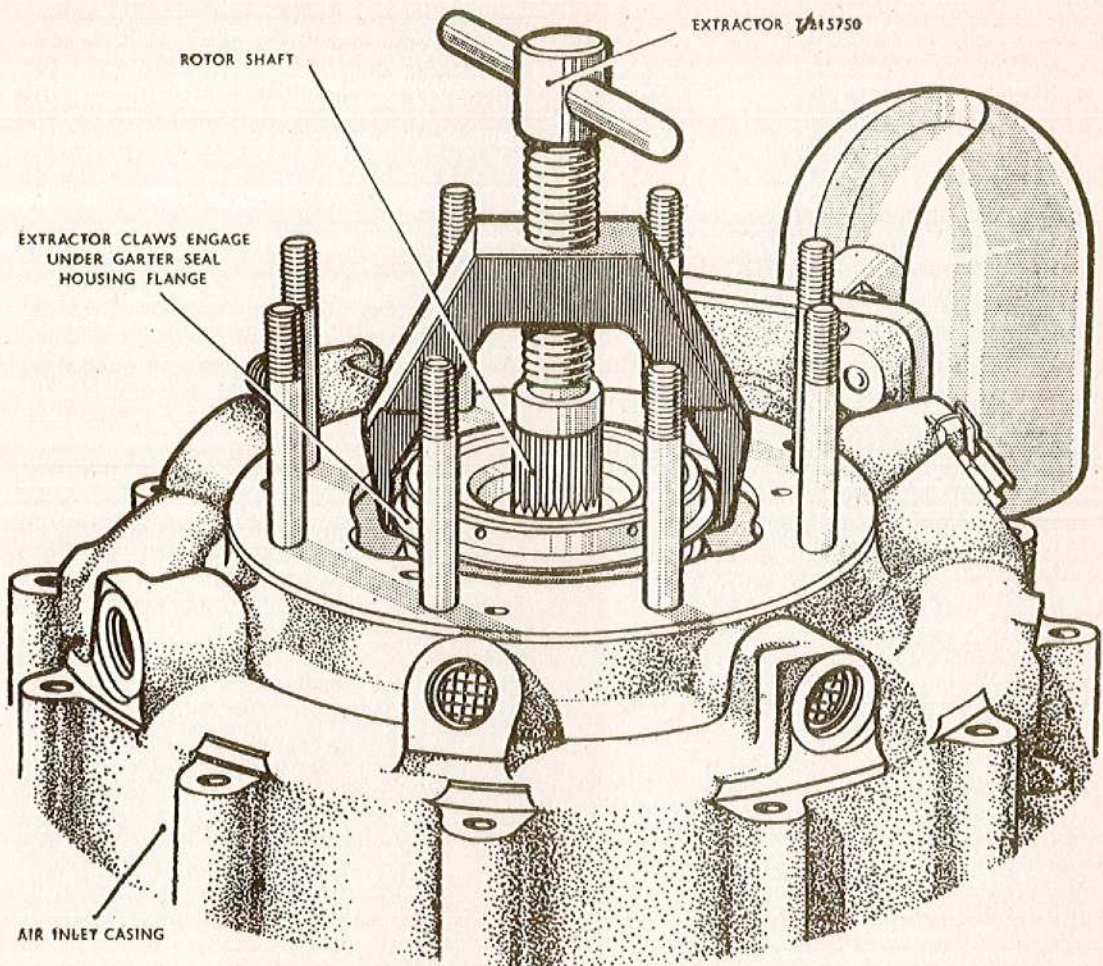

Fig. 8. Removing the garter-seal housing
48. Locate the lips of the extractor T.215750 under the flange round the garter seal housing and screw the centre shaft of the tool down until the spigot locates on the end of the rotor shaft as shown in fig. 8. Check that the tool is correctly positioned, then withdraw the housing by turning the centre shaft of the tool.